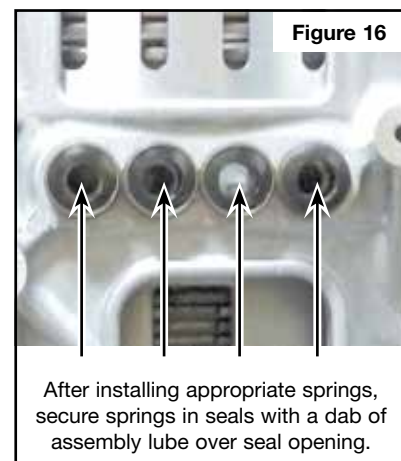

Figure 16
- e. Install appropriate Sonnax springs into OE seals as described below, then secure springs by trapping them in seals with assembly lube (**Figure 16**).